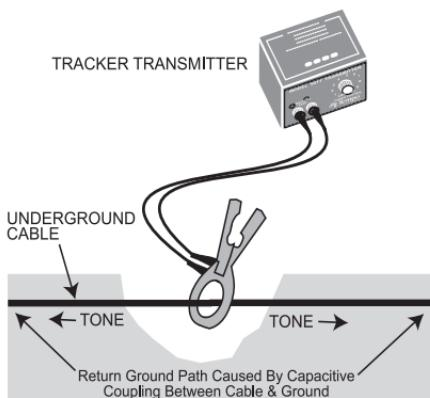

Fig. 11. Mid Run Coupling
- Mid Run Coupling:** If the subject cable is relatively long, current is permitted to flow back through earth as tone is transmitted in both directions. (See Fig. 11)